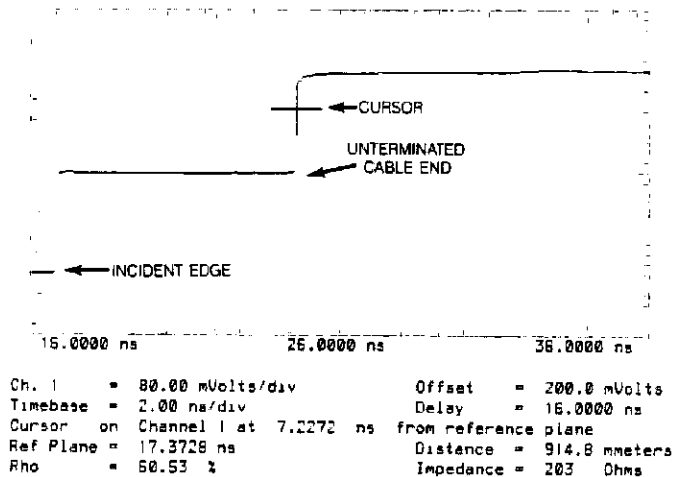

Figure 14-10. Measuring 36-Inch Gore Cable
3. Move the cursor to the unterminated end of the Gore cable — i.e., the beginning of the reflected edge. See Figure 14-10.